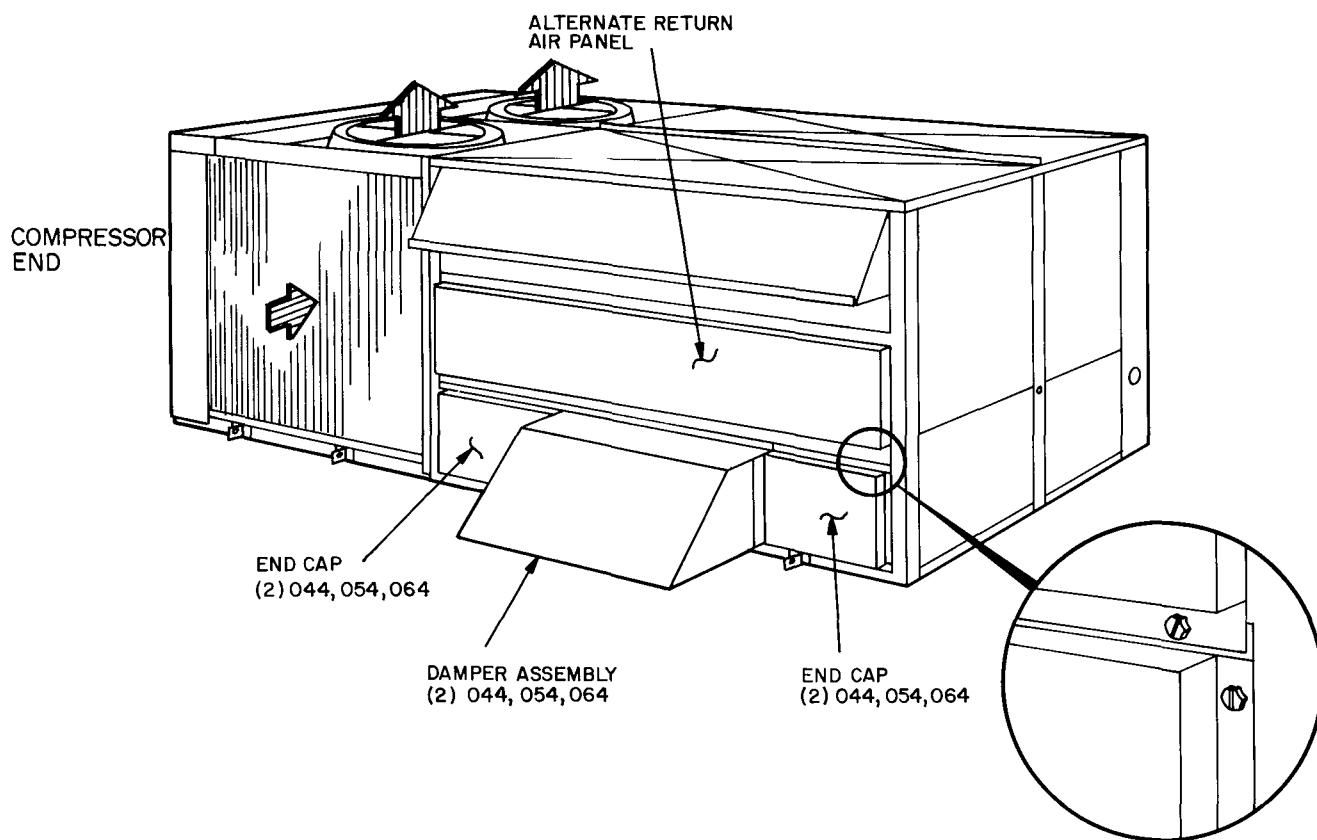

Fig. 6 — Accessory Relief Damper Installed on Base Unit
- Place damper(s) where alternate supply air panel(s) was removed. Line up screw holes in end caps with existing base unit holes and secure assembly to base unit. Reinstall alternate return air panel(s). Lower flange of alternate return air panel(s) overlaps upper flange of relief damper(s) (Fig. 6).